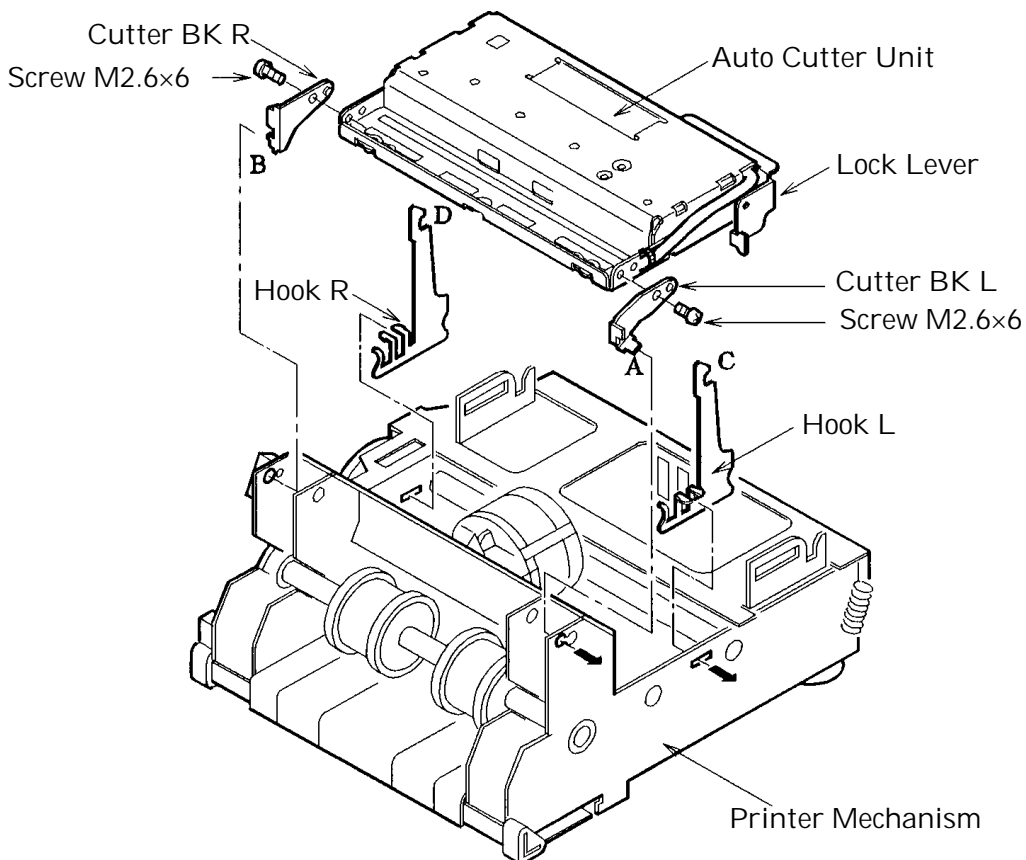

Fig. 1
(2) Packing List (See Fig. 1.)
(3) Assembling the Auto Cutter (See Fig. 1)